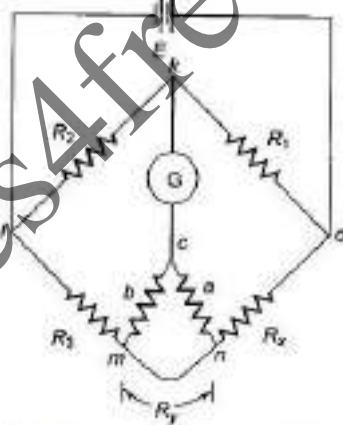

Fig. 4.8 Kelvin's Double Bridge
- The schematic of Kelvin's double bridge is shown in Fig 4.8